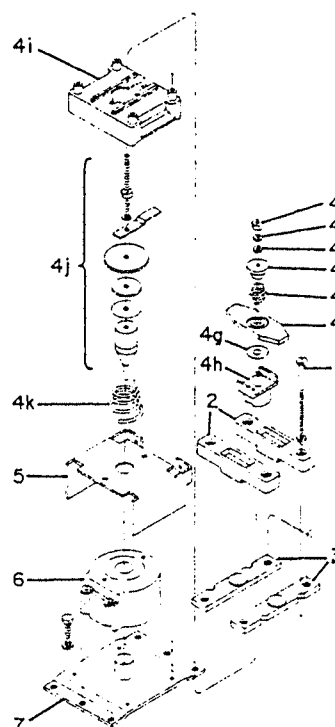

Fig. 3. Assembly of single-pole, single-throw type
(Refer to Fig. 3, page 2 for exploded view and parts index).
6. Loosen and remove the 10-32 nut from the armature and movable contact assembly using a 3/8-inch socket or nut driver. Note the order in which the parts are removed from the stud. See Fig. 3, page 2.
3. Locate the projections on the magnet frame in the indentations on top of the coil with frame oriented as in Fig. 3.